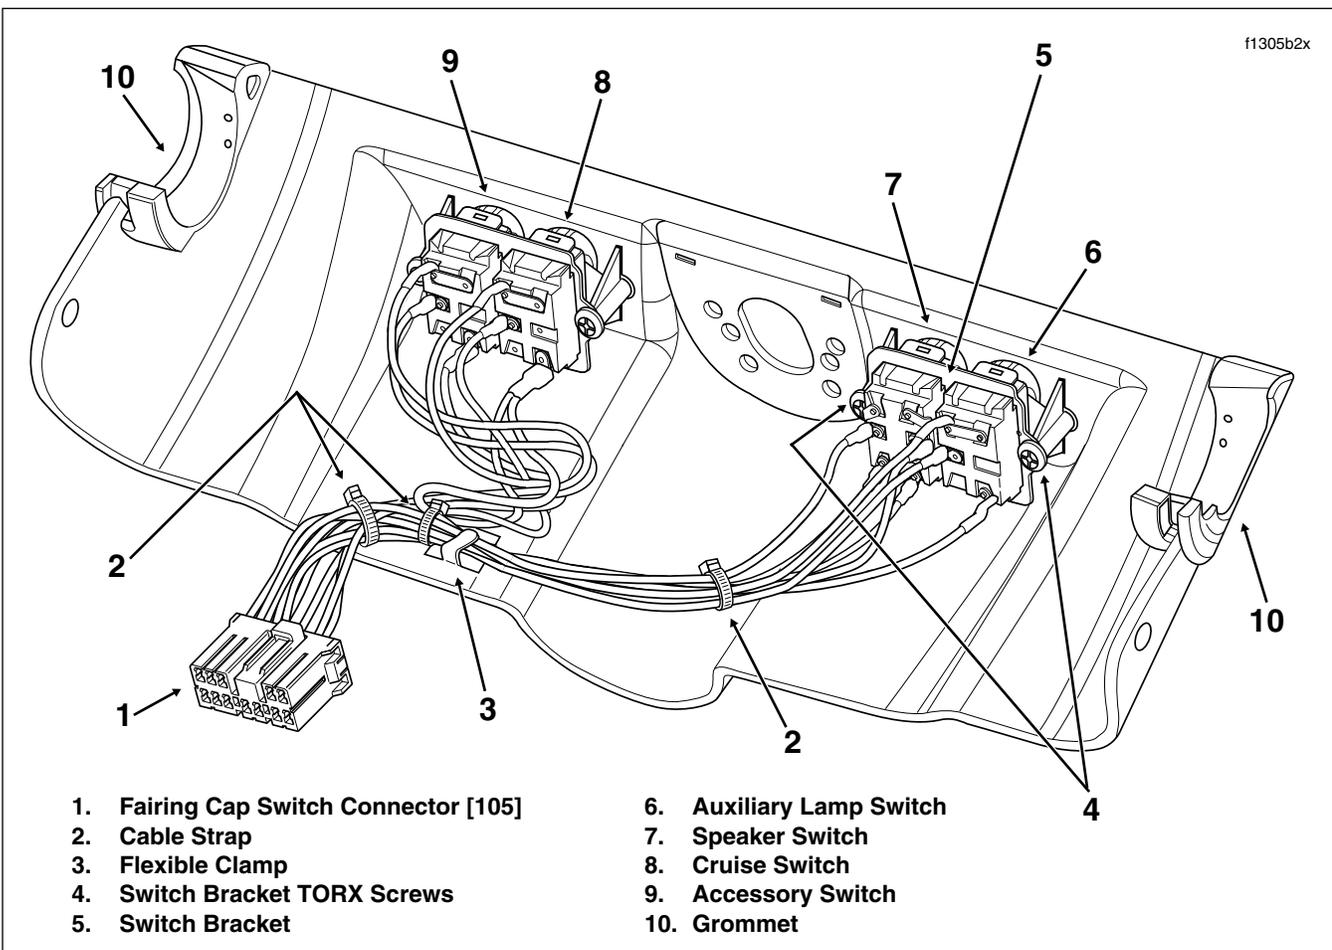

Figure 8-80. Fairing Cap (Inboard Side) - Ultra Model Shown
4. Remove the fairing cap from the motorcycle. See Figure 8-80.
5. Install **new** cable straps to capture wire bundles and then secure switch wires to the fairing cap using the flexible clamp. Route the wires as shown in Figure 8-80.